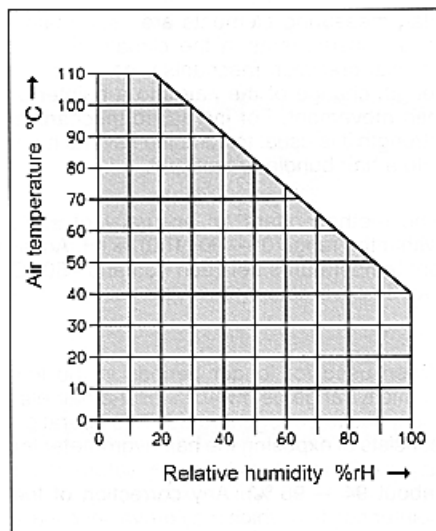

Fig. 8: Maximum temperature and humidity of a plastic measuring element
The plastic measuring element is resistant to water and unaffected by dry dirt, dust, loose fibres and similar contamination. The measurement/working range covers (0) 30 — 100 % rH, but depends on ambient temperature (see Fig. 8).